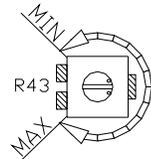

Figure 2.7 Potentiometers
- **Environmental conditions may cause a need to deviate slightly from the potentiometers' default settings (Figure 2.7).**